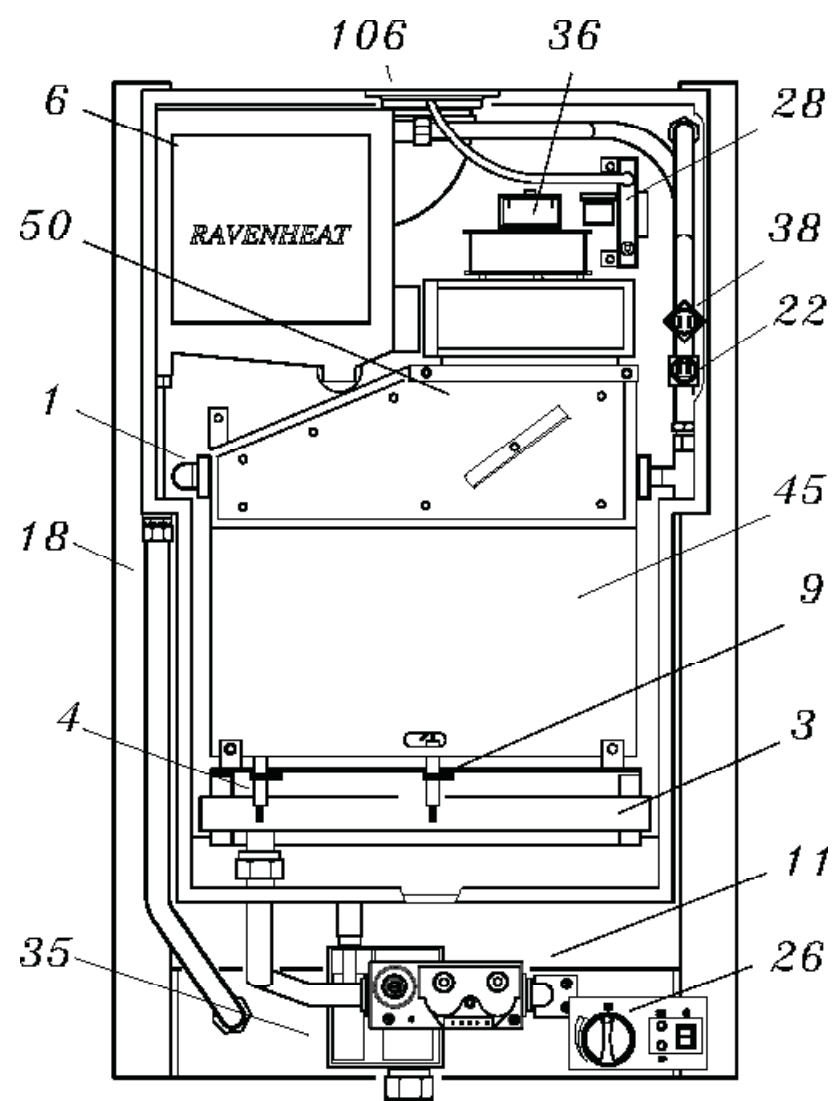

Fig.1
### BASIC COMPONENTS - (See figure 1)
**1.2.1** Fig 1 illustrates the general layout of components.